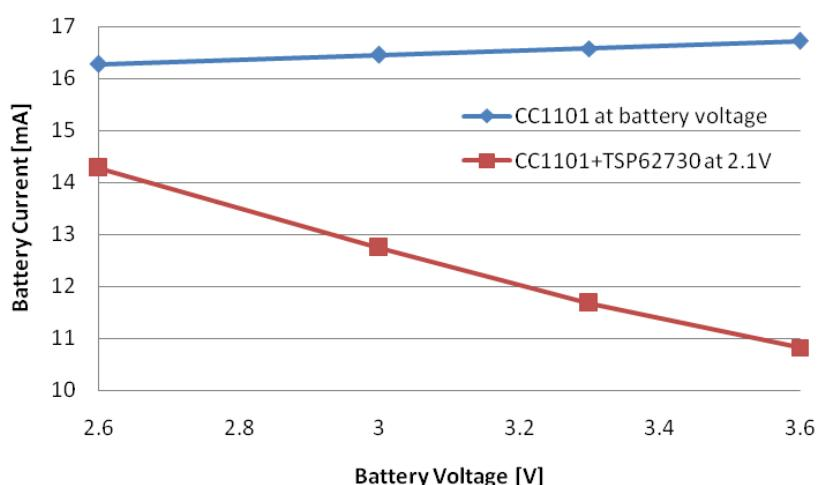

Figure 1: Typical RX Battery Current vs Battery Voltage
- In RX, the current drawn from a 3.6 V battery is typically less than 11 mA when *TPS62730* output voltage is 2.1 V. When connecting *CC1101* directly to a 3.6 V battery the current drawn is typically 17 mA (see Figure 1)